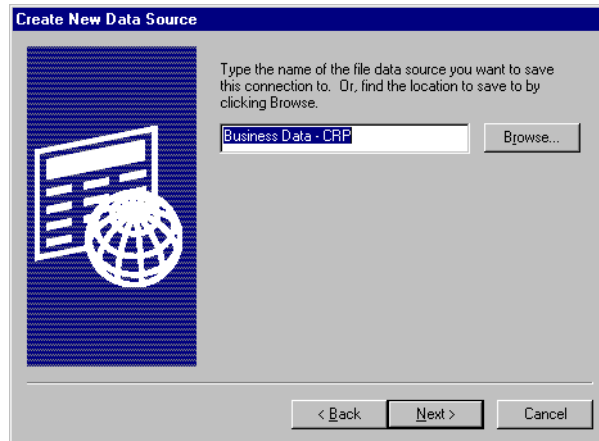

Figure 82. Create New OneWorld Data Source
- c. If you see the Create New Data Source form for the data source to which you want to save this connection, similar to the display in Figure 82, click **Next**.